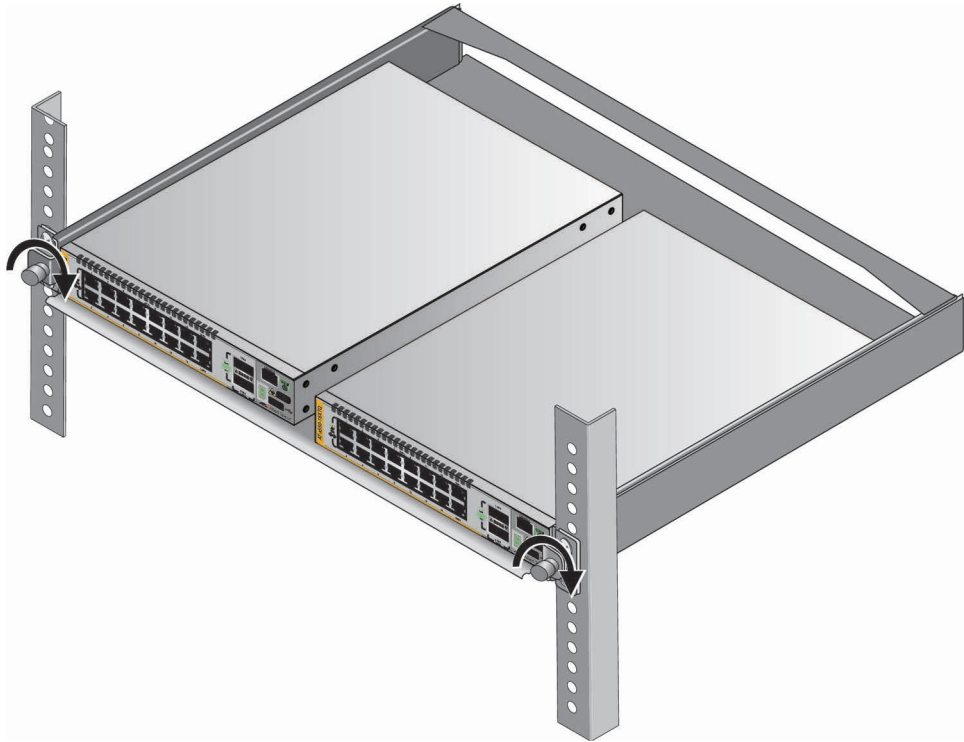

Figure 50. Tightening the Two Thumbscrews on the AT-RKMT-J15 Bracket
11. Tighten the two thumbscrews to secure the tray to the bracket. Refer to Figure 50 on page 103.